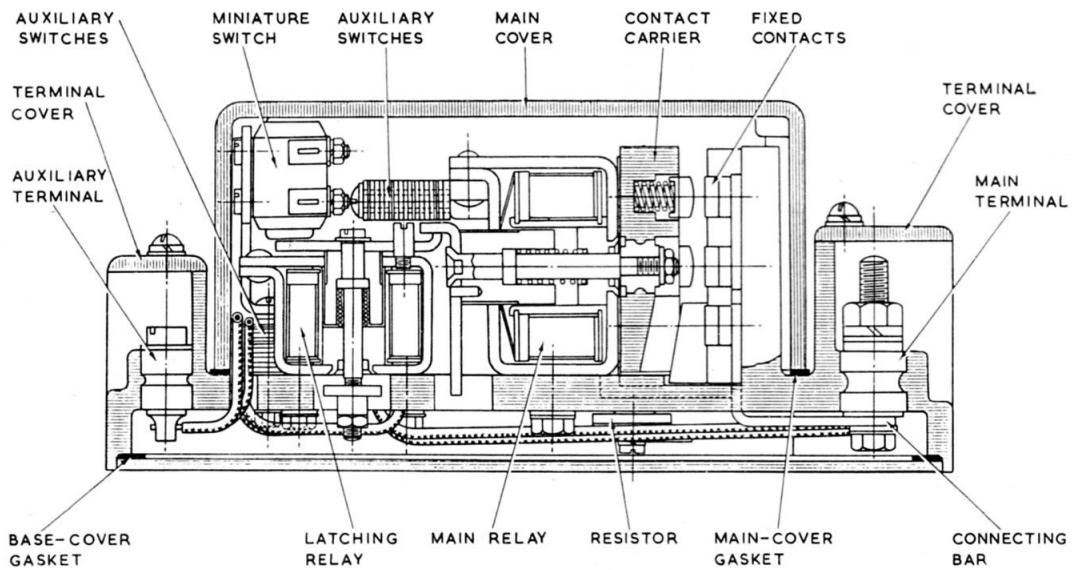
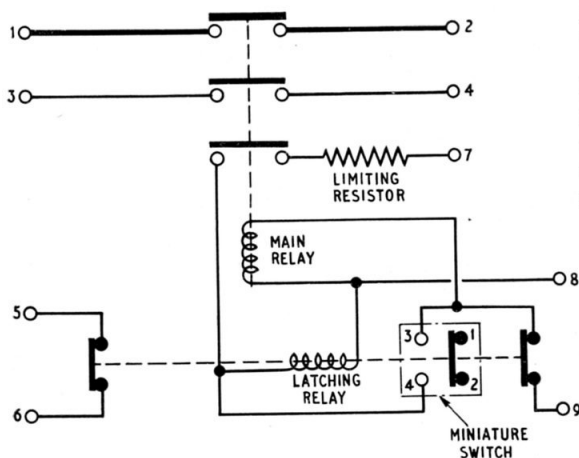

Fig. 2. Sectional view
Fig. 4. Circuit diagram
4. Essentially the switch (*fig. 2*) consists of two relays. The main relay operating horizontally and the latching relay working in the vertical plane.
8. A miniature switch is provided in the main switch (*fig. 2*) and its purpose is to momentarily switch current on to the main coil when the latching relay coil becomes energized. This draws the main armature back slightly whilst the latching relay armature moves down and thus prevents excessive wear of the latching plates. At the same time it will be seen (*fig. 4*) that as resistor is brought into the circuit thus limiting the current passing through the short-time rated relay coils.
12. The circuit diagram of the switch is given in fig. 4 and the dimensions in Leading Particulars. The main terminals (1 and 2) are 2 BA studs, the operating terminals (7, 8 and 9) and the auxiliary terminals (3, 4, 5 and 6) are 4 BA screws.